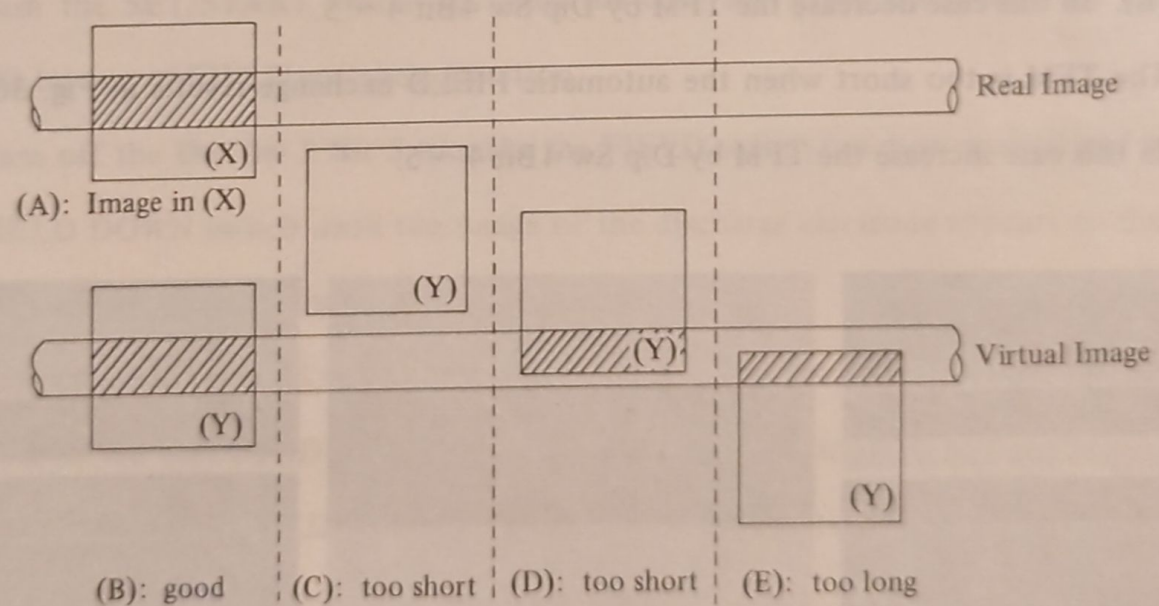

Fig. 362-3 Example of FIELD & FOCUS Motors Driving Time TFFM in Automatic FIELD Exchange from (X) to (Y)
- ① Turn off Dip Sw 5 Bit 5 to make the FIELD switch function manual and turn on the Dip Sw 5 Bit 6 to make the AXIS switch function for ZL & ZR.
- ② Set the optical fiber on the V groove and move the fiber forward along Z-axis then adjust the fiber image position to the center of the monitor in (X) by FIELD switches as shown in Fig. 362-3 (A).
- ④ The FIELD & FOCUS motors driving time TFFM is good when the automatic FIELD exchange results in Fig. 362-3 (B).
But the TFFM is too short when the automatic FIELD exchange results in Fig. 362-3 (C) or (D). In this case increase the TFFM by Dip Sw 4 Bit 1 ~ 3.
The TFFM is too long when the automatic FIELD exchange results in Fig. 362-3 (E).